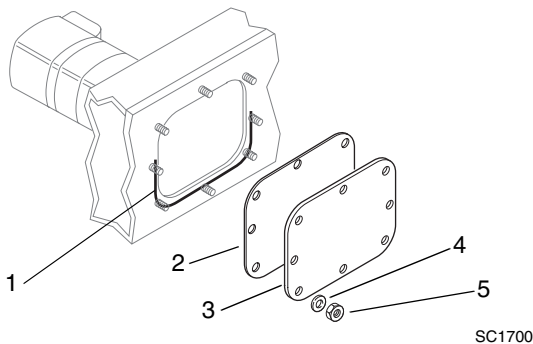

Figure 7-85 Access Cover Installation
9. Clean any sealer residue from the lower part of the access cover opening (Fig. 7-85, 1). Apply a new 1/8" bead of sealant (1) such as Permatex 2 RTV around the lower half of the opening.
10. Reassemble the cover gasket (Fig. 7-85, 2) and cover (3) to the side of the chain case using the original washers (4) and hex locknuts (5). Torque the eight locknuts to 14 lb/ft (19 Nm) to complete the inspection procedure.